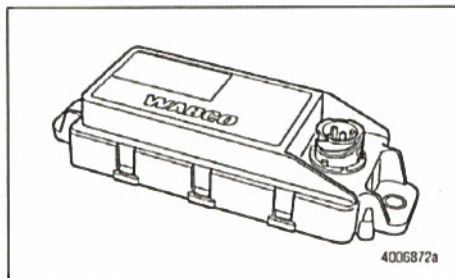

Figure 6
6. Remove the two mounting capscrews and nuts. Remove the ESC Module. Figure 6.